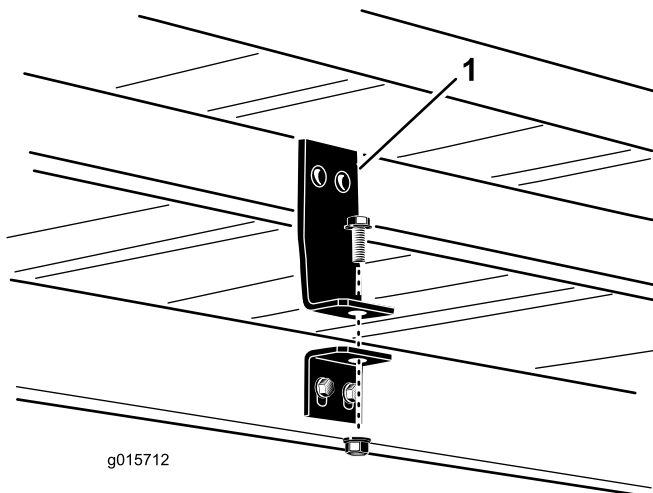

Figure 28
1. On each side of the machine, remove the flange head bolt and flange nut securing the bed mounting bracket to the frame bracket (Figure 28).
2. On each side of the machine, secure the bed mounting bracket to the frame bracket with the flange head bolt and flange nut previously removed (Figure 28)